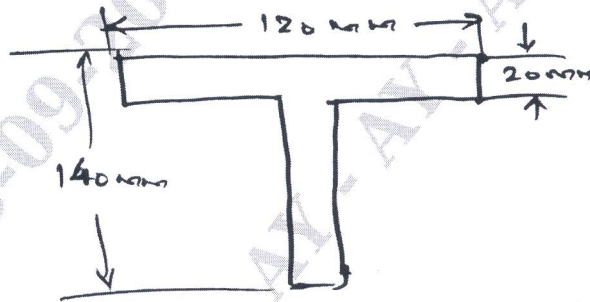

Fig.Q7(b)
- b. The T-section shown in Fig.Q7(b) is used as a simply supported beam over a span of 4m. It carries an uniformly distributed load of 8kN/m over its entire span. Calculate the maximum tensile and compressive stress occurring in the section.